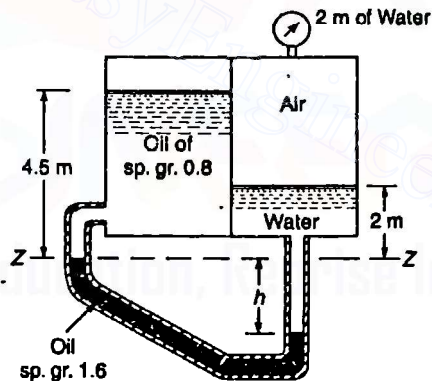

Fig. 2-35.
7. The compartments of the two tanks are closed and filled as shown in Fig. 2-35. Find the value of h , if the pressure in the left hand tank air is 0.2 m of mercury.